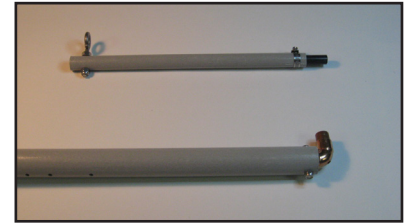

Fig. 37
- ☐ Select either one of the Boom End Sub-Assemblies and temporarily remove the tube and rod from the copper elbow as shown in Fig. 37.